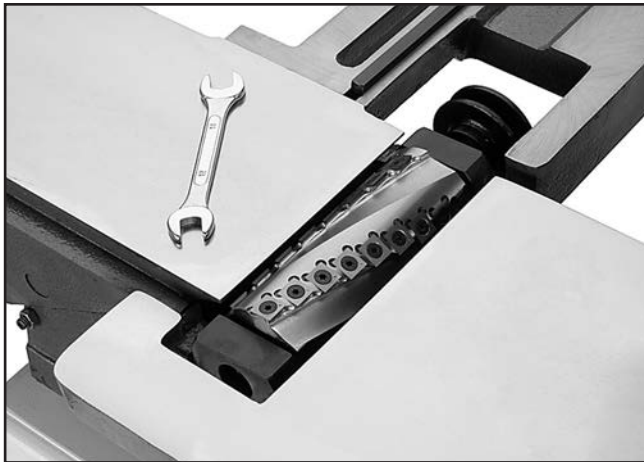

**Figure 7.** Seating rear bearing block onto helical cutterhead.
13. Stand cutterhead upright between two 8" 2x4 blocks, then use a piece of scrap wood and a dead blow hammer to seat cutterhead into bearing blocks, as shown in **Figure 7**.